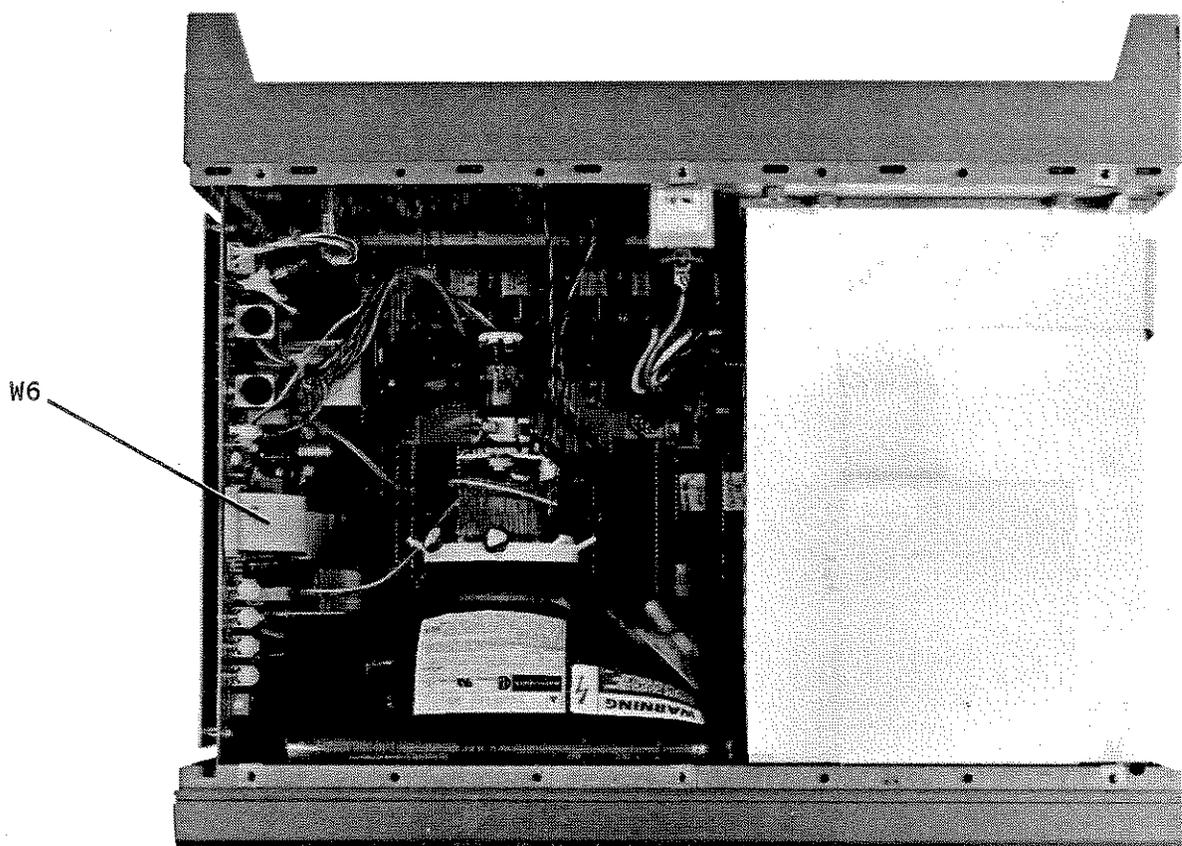

Figure 6-13. HP 54501A CRT Monitor Assembly Cable, W6, Location
2. Check W6 for signals listed in table 6-2. Refer to figure 6-13 for cable location. The dynamic video signals FB (FULL BRIGHT) and HB (HALF BRIGHT) are single-ended TTL inputs. Check for activity on these pins. Table 6-3 is the truth table for these signals.